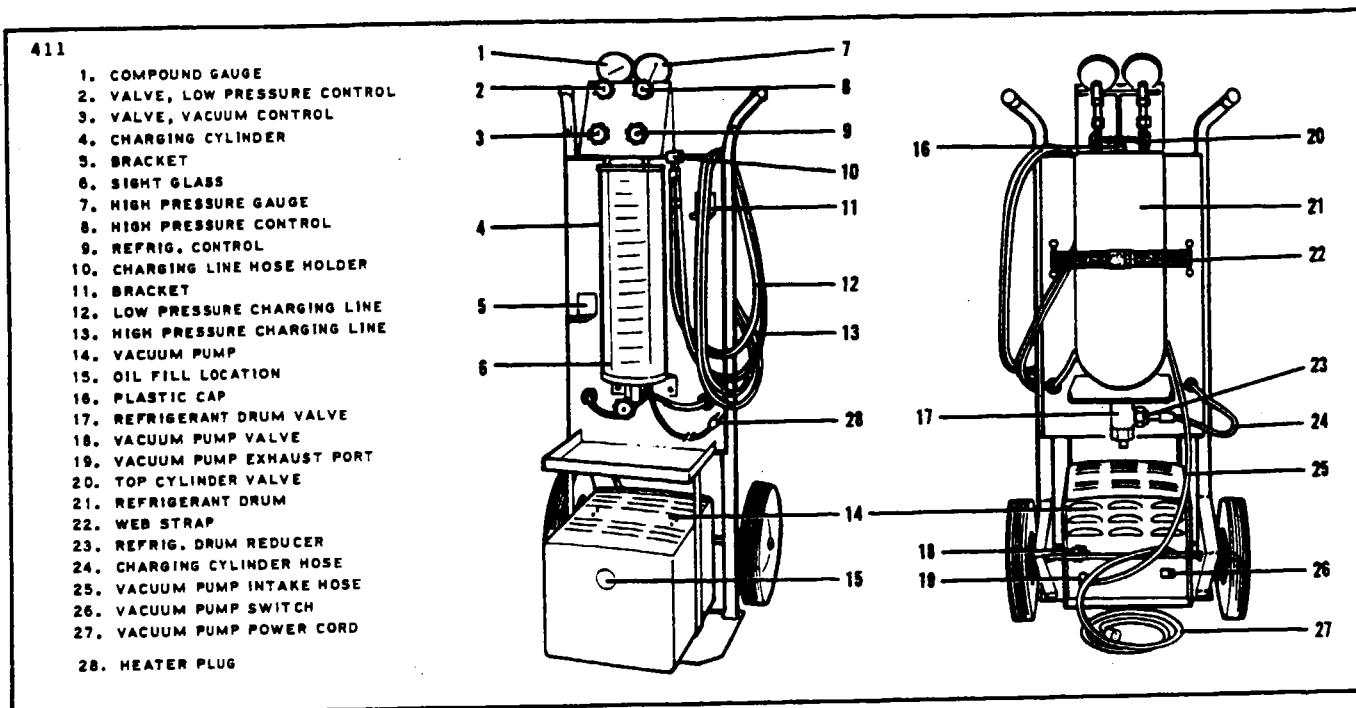

Figure 13-27. Charging Stand
- a. With the charging stand connected to the airplane's system (refer to Figure 13-27), allow five and one-half pounds of refrigerant to enter the charging cylinder.